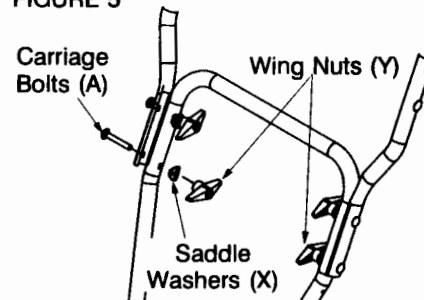

FIGURE 6
- Raise the upper handle assembly until it locks over the lower handle. Secure the lower holes in the handles with the remaining carriage bolts, saddle washers and wing nuts. See Figure 6.